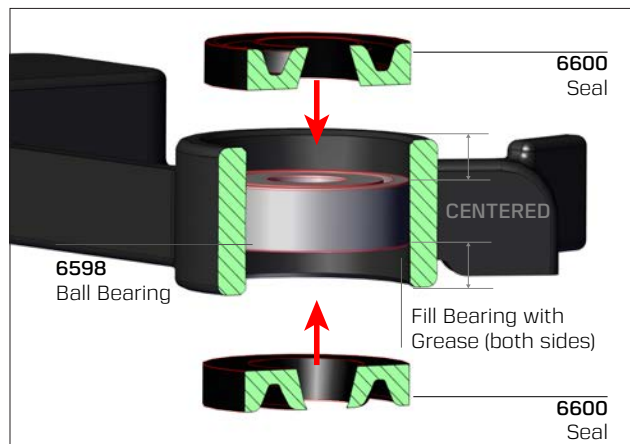

Fig. 11.
- B. Position new #6600 seal over bore (flat side toward the bearing) as shown in Fig. 11. Place flat piece of smooth metal or wood on top of seal and use a hammer to lightly